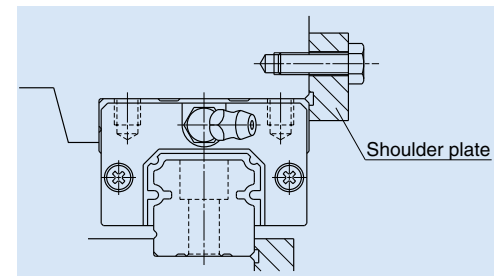

Fig. 10.17 Pressing slide from sideways
- [2] While pressing the table from sideways, further tighten the bolts which secure the slides on the reference side, so the table shoulder and the slide's mounting datum surface are sufficiently tightly pressed. If a shoulder plate is provided, first tighten the bolts of the plate, then further tighten the bolts to the slides (**Fig. 10.17**).